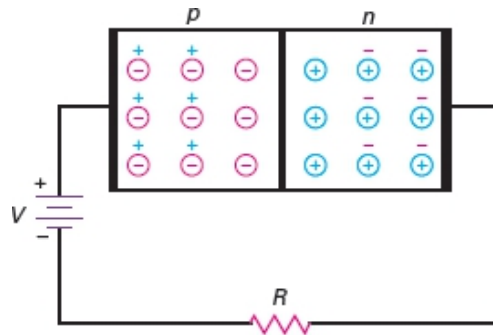

Figure-6 Forward bias
- Figure-6 shows a dc source across a diode. The negative source terminal is connected to the n-type material, and the positive terminal is connected to the p-type material. This connection produces what is called forward bias.
- In Figure-6, the battery pushes holes and free electrons toward the junction.